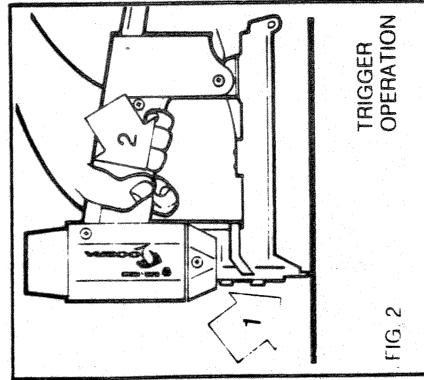

FIG. 2
1. **TRIGGER-OF-TRIGATION** (See Fig. 2) Trigger operation method is the most commonly used. This method assures accurate placement of the staple and the maximum drive power.